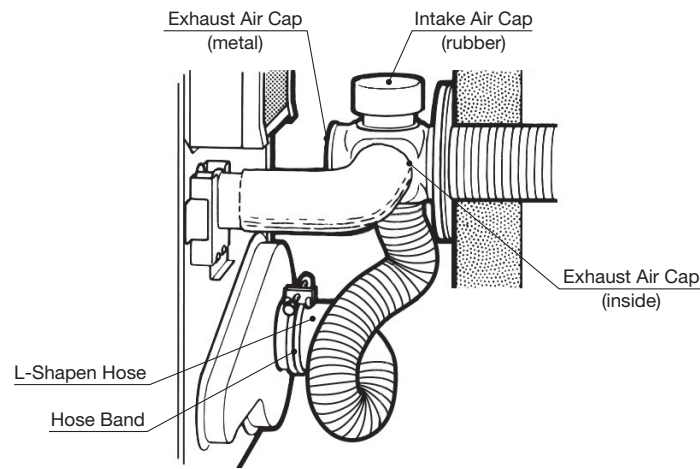

Fig. 10
6. Insert the bent joint to the exhaust opening of the flue pipe. Cut the inlet hose for desired length if necessary. Attach the L-shaped hose to each end of the inlet hose and attach the L-shaped hose to the intake opening of the flue pipe. Secure the L-shaped hose to the intake opening with the hose band. Plug the unused exhaust (metal cap) and intake (rubber cap) opening with the caps provided with the heater. Make sure the caps fit tightly onto the opening (See Fig. 10).